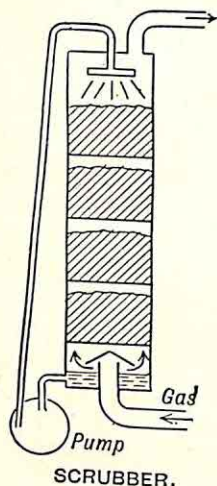

FIG. 8.
(4) **Scrubbers or washers.**—The gas is still not fit for use, and it is next washed in scrubbers. These may be towers packed with coke or planks of wood; the gas passes up the towers, water being sprayed in at the top to trickle down the packing material (Fig. 8).